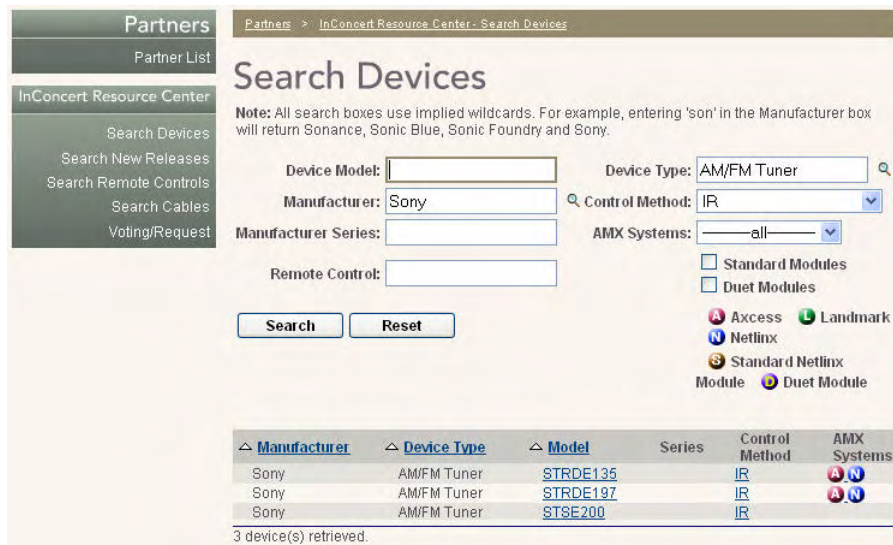

FIG. 47 Search results
- Click **Search**. The results of the search are displayed (FIG. 47):